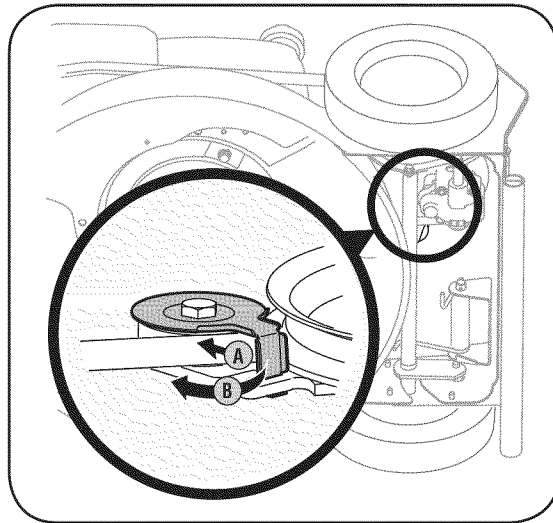

Figure 5-7: Rotate belt keeper to free the belt.
- Using a pair of pliers, pull back and rotate belt keeper from the slot on the idler bracket, Figure 5-7.